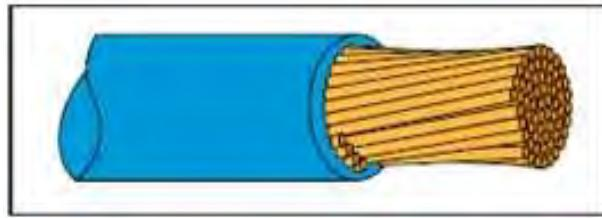

Figure 170
a. Broken, nicked, or cut strands as listed below and shown in Figure 170.